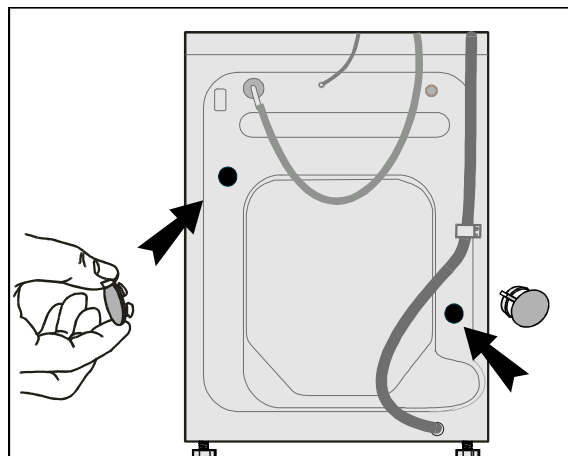

fig. 4
- Use the enclosed plastic caps to plug the holes (fig. 4).